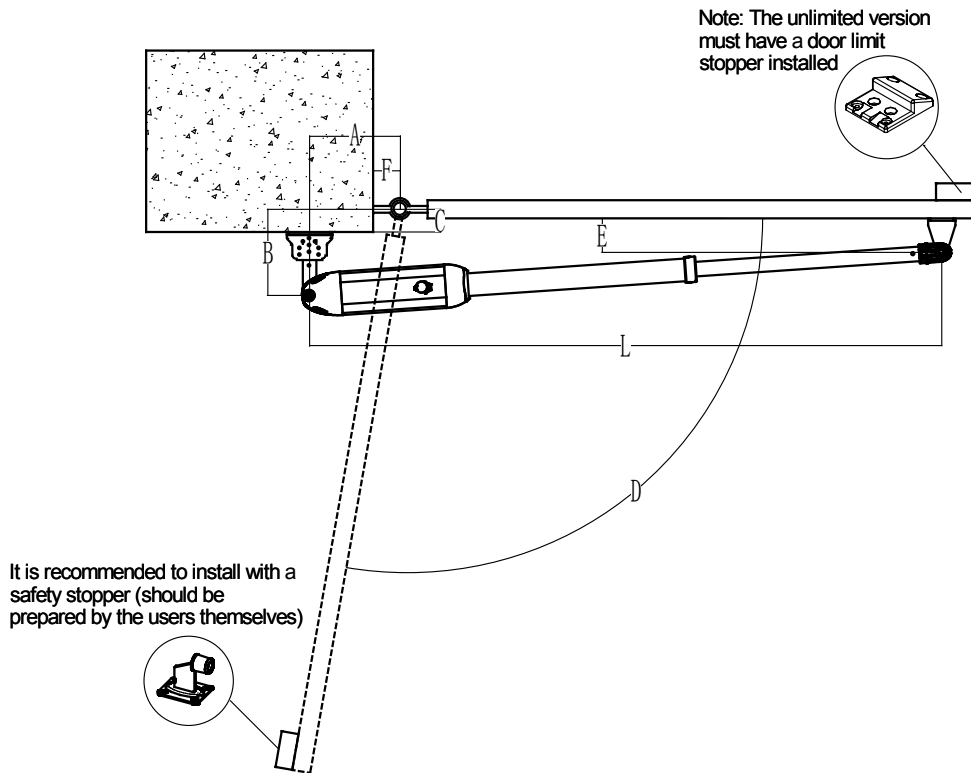
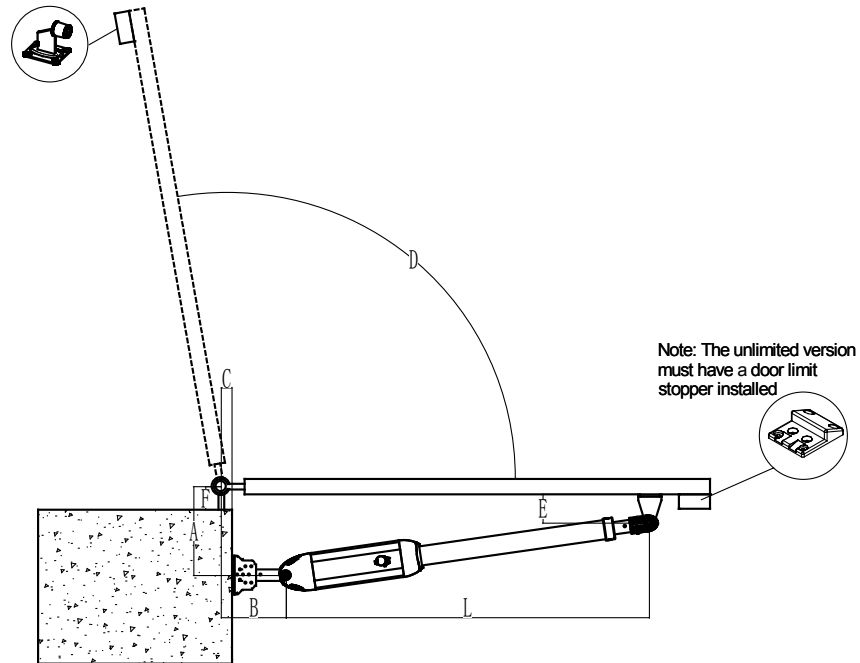

Figure 8
Figure 9
- To ensure safety and protect the machines, please install a gate stopper at the open limit position when the door opens outward to prevent the gate from running over its travel. Meanwhile, to enable the 2 swings to close to their accurate limit position, please install a limit stopper at the close limit position (as shown in figure 9). Similarly, when the door opens inward, please install a limit stopper at the close limit position (as shown in figure 8).